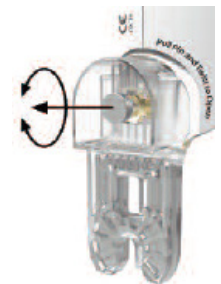

Figure 2
1. Pull out and rotate the locking pin 90 degrees to lock it in the “out” position. (Fig. 2)